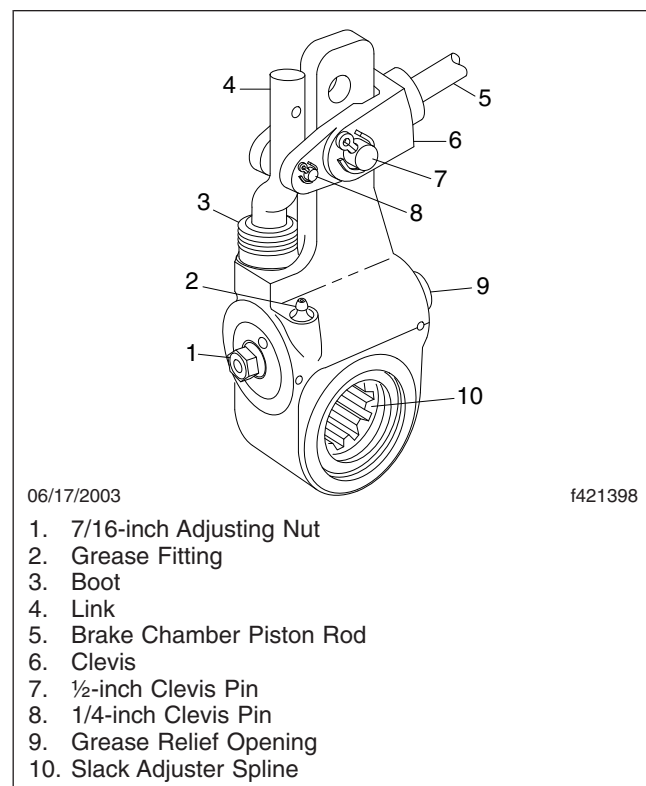
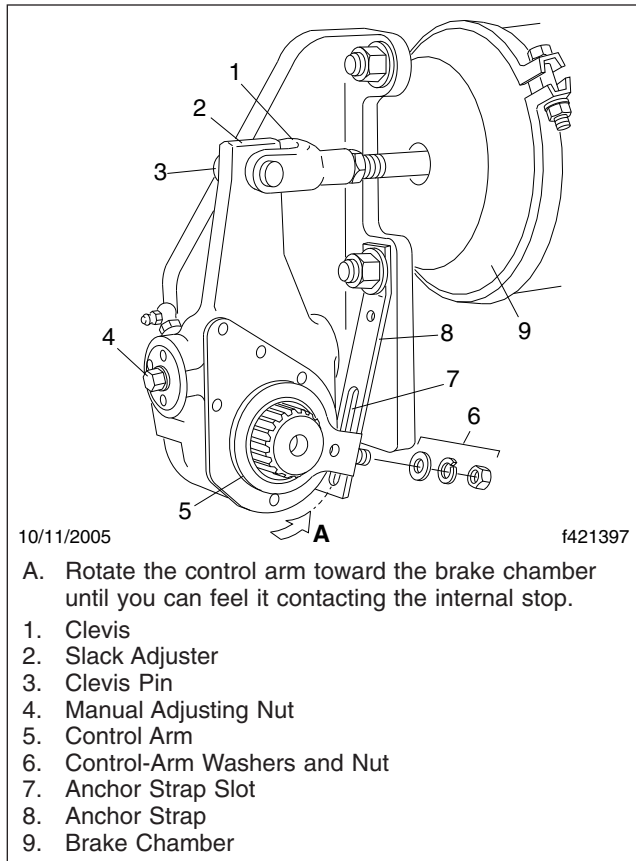
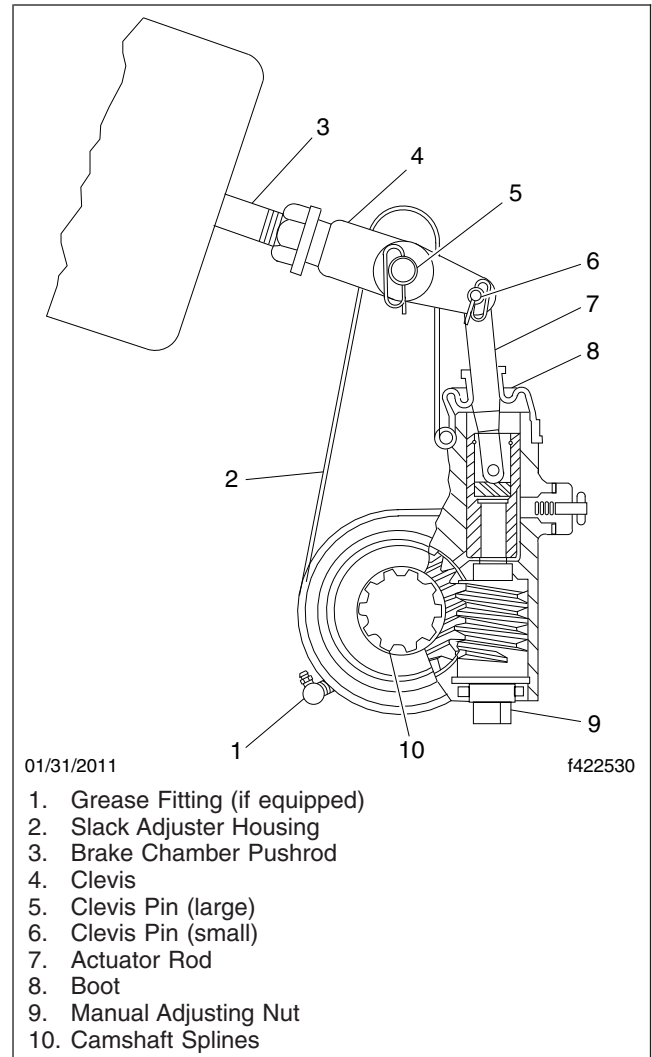

Fig. 23.1, Gunite Automatic Slack Adjuster
Fig. 23.2, Haldex Automatic Slack Adjuster
Fig. 23.3, Meritor Automatic Slack Adjuster
2. Inspect slack adjusters for signs of damage. See Fig. 23.1, Fig. 23.2, or Fig. 23.3.